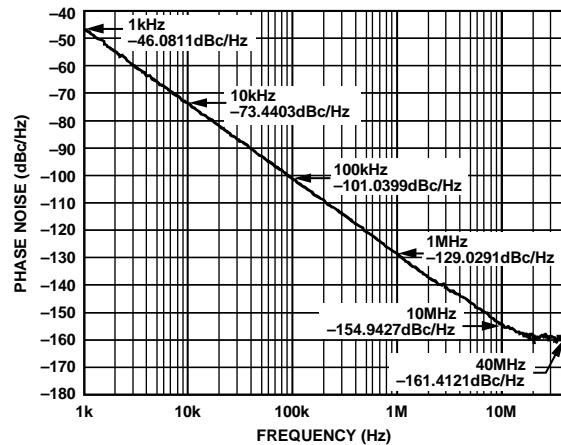

Figure 4. EV-ADF5709 Phase Noise at J2, VCO Band 1, $V_{TUNE} = 8.45$ V, 13.5 GHz
2. Verify that the phase noise at this output frequency of approximately 13.5 GHz matches the single sideband phase noise specification in the ADF5709 data sheet by using the signal source analyzer to measure the phase noise. Refer to Figure 4.